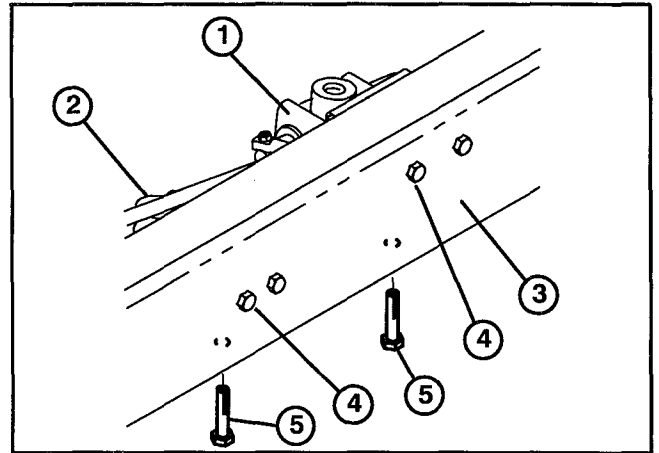

Figure 11
32. Route end of wire harness, with (2) connectors, toward lift valve mounted to left frame rail (Fig. 11).
44. Remove front (upper and lower) capscrews and nuts securing lift valve mounting bracket to left frame rail (Fig. 11). Also, remove front (upper and lower) capscrews and nuts securing auxiliary valve mounting bracket to left frame, if so equipped.